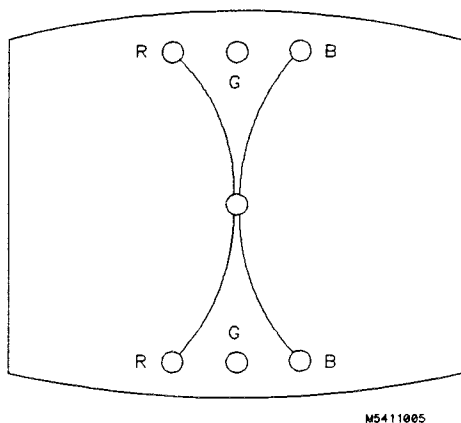

Figure 4-8. Y BOW Adjustment
2. Adjust **Y BOW** (RV805) on bottom PC board to eliminate red, green, and blue bowing at top and bottom of center vertical line. Refer to figure 4-8.